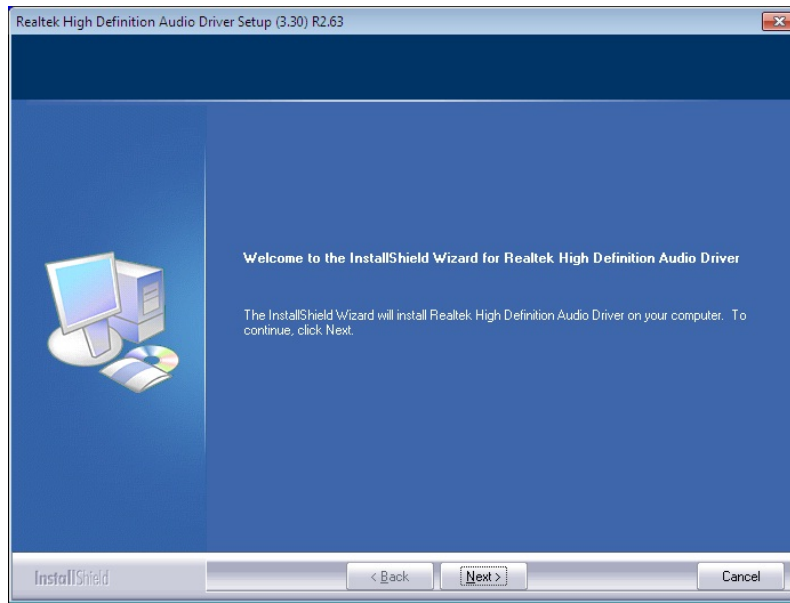

Figure 6-25: Audio Driver Welcome Screen
Step 4: The **Welcome** screen in **Figure 6-25** appears.